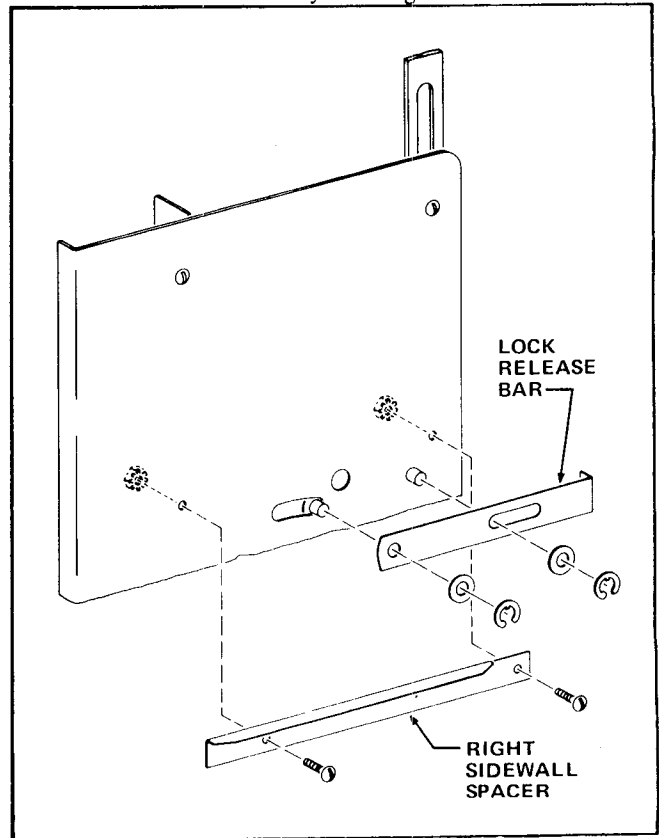

FIGURE 6-2
22. Remove two Retaining Rings, two Washers, and Lock Release Bar from the Right Sidewall. Retain the Lock Release Bar for use on the replacement Right Sidewall Final Assembly. See Figure 6-2.
23. Remove two No.8-32 Nuts with Lockwashers, two Spacer Rollers, two No.8-32 x 5/8 RHS Screws and the Right Sidewall Spacer from the Right Sidewall. Retain the Right Sidewall Spacer for use on the replacement Right Sidewall Final Assembly. See Figure 6-2.